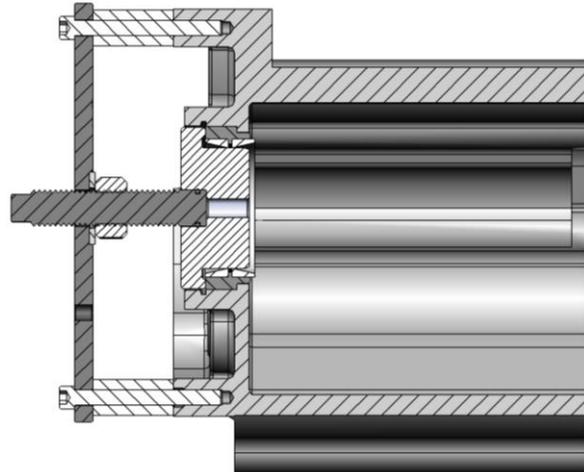

FIGURE 18 | TAPERED BEARING ADAPTER FULLY SEATED IN CASE
- Immediately after the case is heated, secure the 9/16" hex or 5/16" Allen end of the threaded shaft (2) and tighten the nut (5) to drive the tapered bearing adapter into the case until it bottoms out in the bore; see figure 18. This operation must be done quickly with no interruptions while the case is warm.